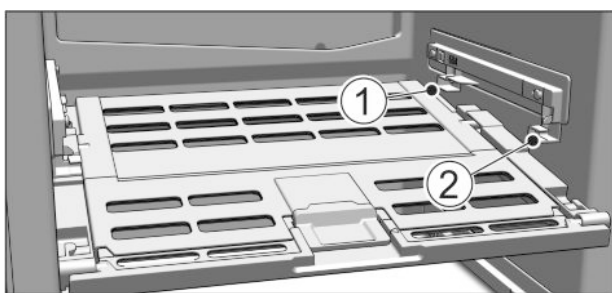

Fig. 10
- ▶ Replacing the Fruit & Vegetable safe cover: Guide the ridges on the cover into the rear brackets Fig. 10 (1) and click it into the front bracket Fig. 10 (2).